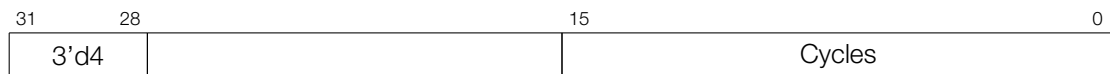

Figure 142: Instruction Type – WAIT
**Operand**    **Description** - see Figure 142